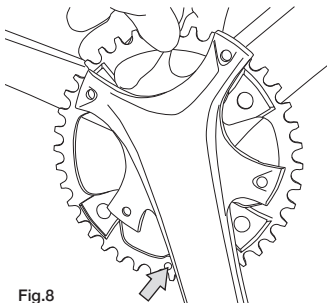

Fig.8
- Position the new chainring on the crankset support, making the pin on the chainring align with the hand crank (Fig. 8).